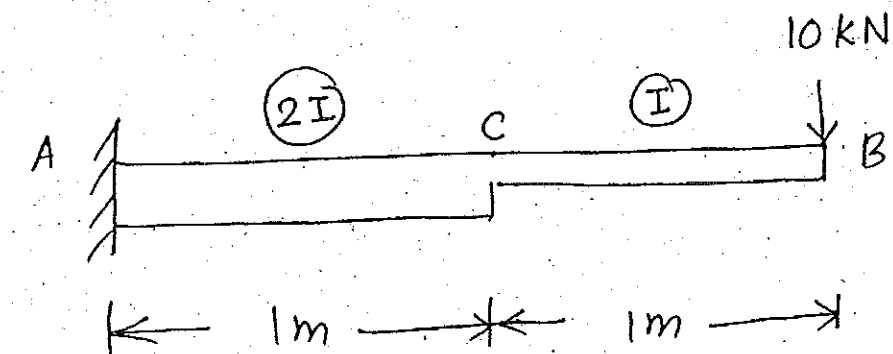

Fig. Q.16 (b)
- (b) Determine the slope and deflection at the free end of cantilever given in Fig. Q.16 (b). Use conjugate beam method. $E = 2 \times 10^8 \text{ kN/m}^2$ and $I = 10^8 \text{ mm}^4$.